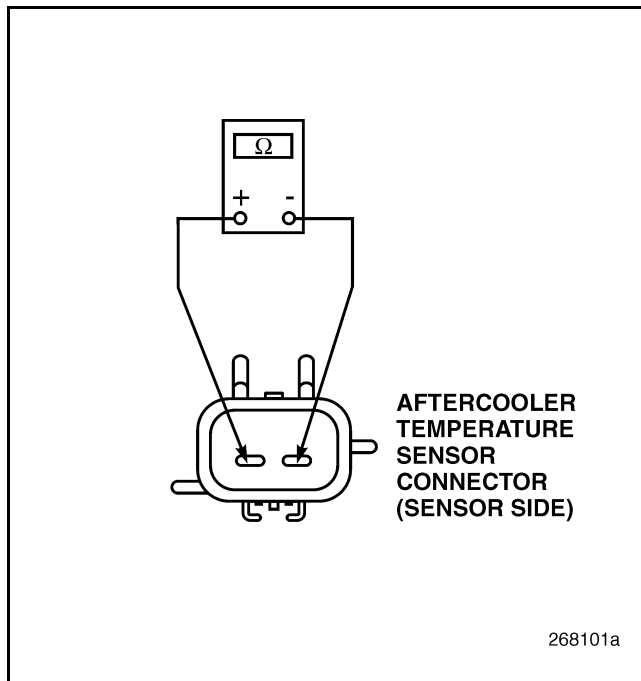

Figure 800
3. Measure the resistance across the pins of the AOT Sensor with the air temperature between 50° and 180°F (10° and 82°C) (see Figure 800).